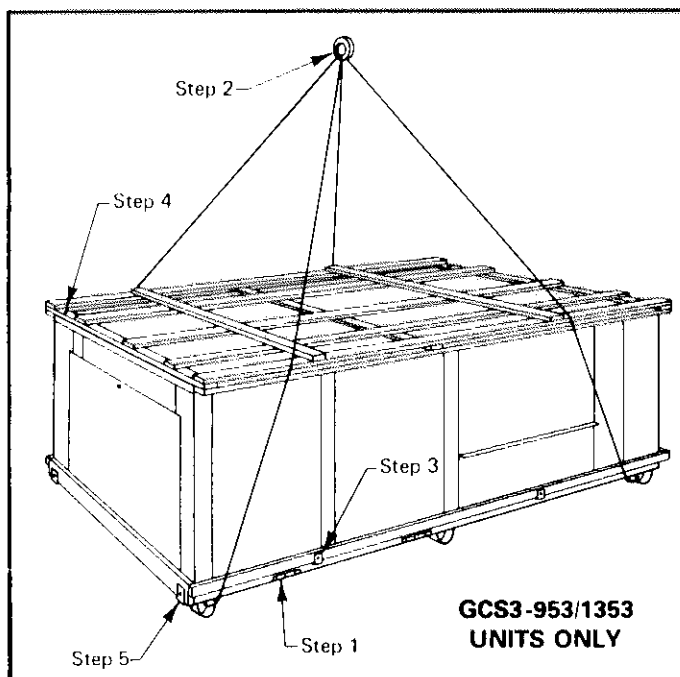

FIGURE 1
1 - Remove (4) plywood supports (2 each side). Refer to Figure 1, Step 1.
2 - Rig unit with (4) lines as illustrated in Figure 1, Step 2. Leave top crate in place to serve as spreader.
3 - After unit is set on mounting frame, remove metal brackets and discard crate. See Figure 1, Step 3.
4 - Replace bolts in top of cabinet and seal weather tight around the bolts. See Figure 1, Step 4.
5 - Replace (2) bolts in condenser end mullions as shown in Figure 1, Step 5.